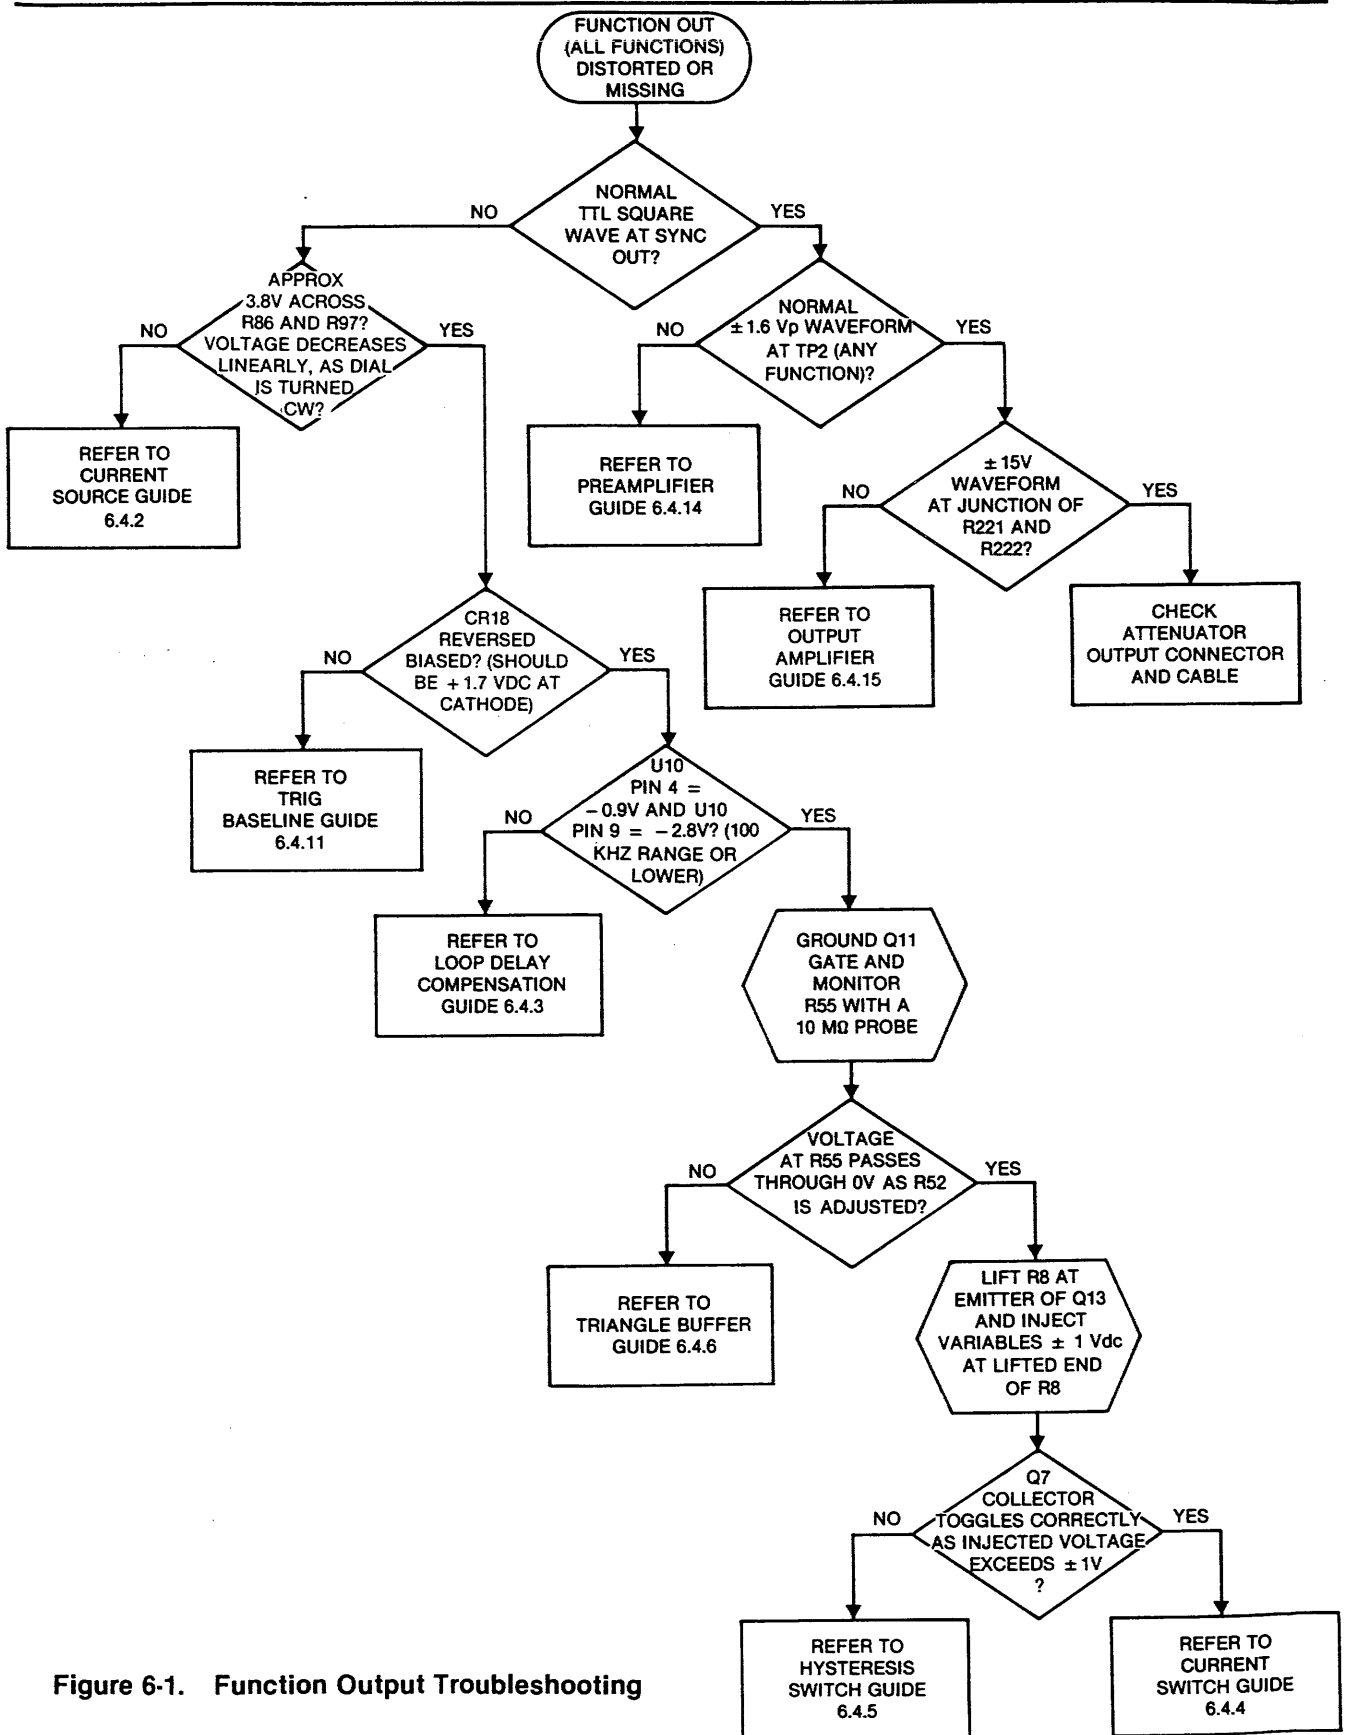

Figure 6-1. Function Output Troubleshooting
delay compensation circuit appears normal, refer to figure 6-1.
- If none of the above conditions apply, refer to figure 6-1.